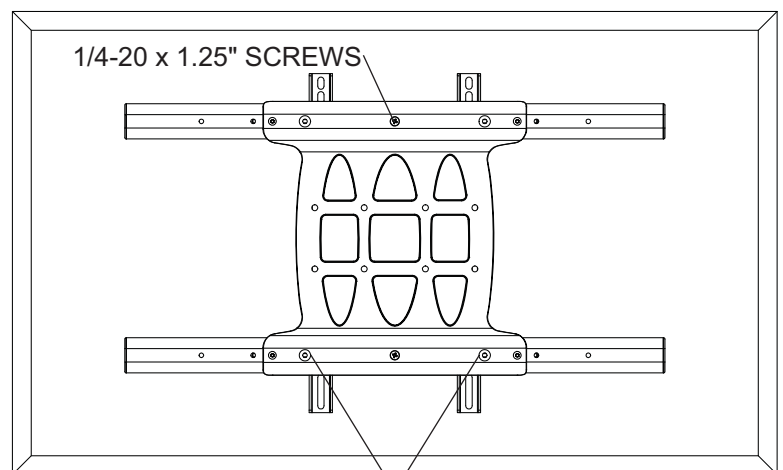

fig. 4.4
Tighten two 1/4-20 x 1.25" screws. Reinstall four 1/4-20 x .6" screws using 5 mm allen wrench (I) into fixed-stop position 1 as shown in figure 4.4.